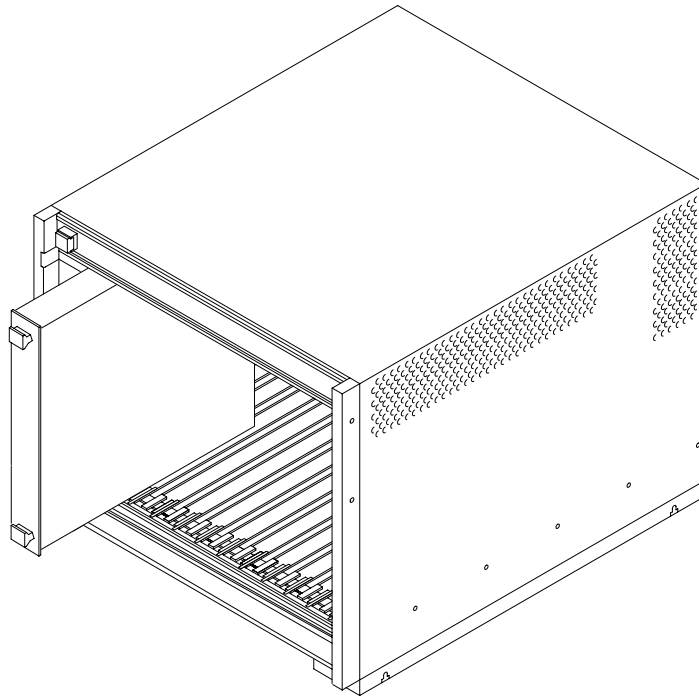

Figure 1–4: Module Installation
3. Install the Option 01 on the SurePath™ switching module (see Figure 1–3):
5. Insert the module with the Option 01 installed into one of the instrument slots of the mainframe (see Figure 1–4). Refer to the User Manual for the switching module for detailed installation instructions.